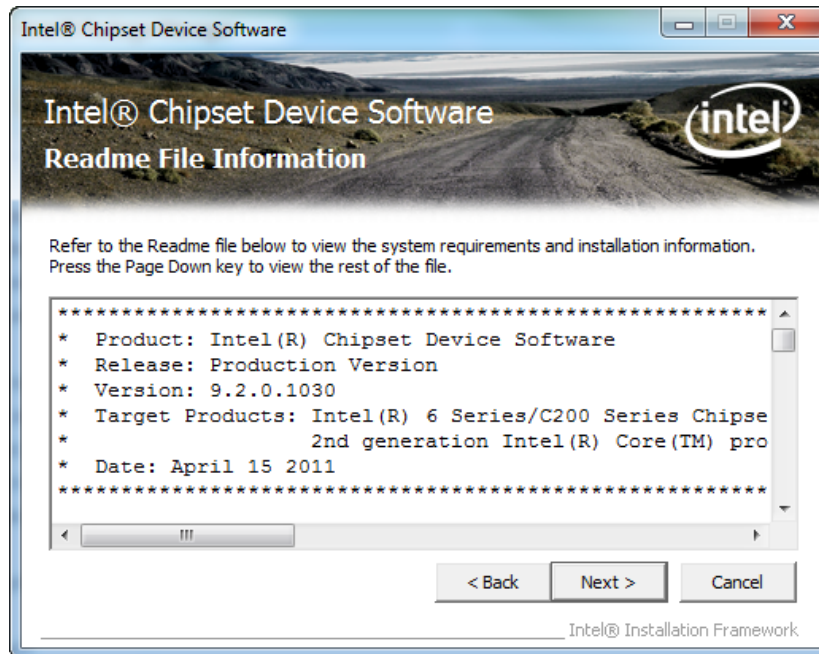

Figure 7-5: Chipset Driver Read Me File
Step 10: The Read Me file in **Figure 7-5** appears.